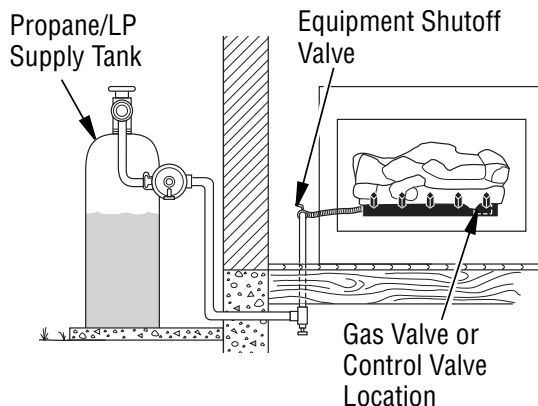

Figure 16 - Checking Gas Joints (Propane/LP Only)
3. Check all joints from gas meter to equipment shutoff valve for natural gas or propane/LP supply to equipment shutoff valve for propane/LP (see **Figure 16 or 17**). Apply noncorrosive leak detection fluid to all joints. Bubbles forming show a leak.
4. Check all joints from equipment shutoff valve (*see Figure 16 or 17, Page 16*). Apply noncorrosive leak detection fluid to all joints. Bubbles forming show a leak.